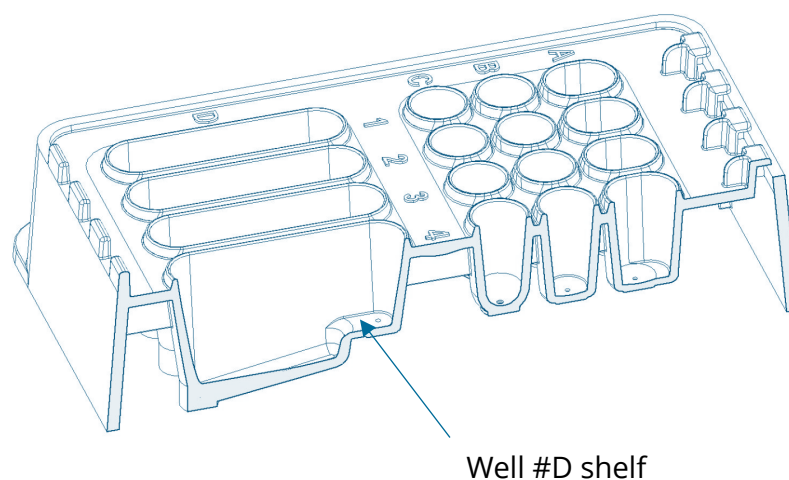

Fig. 2.4. Cross section of the Xdrop DE20 Cartridge. Note the location of the shelf in well #D.
4. Unpack the cartridge and place it on a clean, flat surface in a LAF (laminar air flow) cabinet or a similar clean, dust-free environment. The layout of the Xdrop DE 20 Cartridge is shown in Fig. 2.3. A cross-section of the cartridge is shown in Fig. 2.4.
11. Load **40  $\mu$ l** of the outer phase (e.g., medium with Stabilizing Solution or DE PCR buffer) onto the shelf of the collection well (**#D**; Fig. 2.4).
13. Load **100  $\mu$ l** of Droplet oil (DE) • into well **#B**.